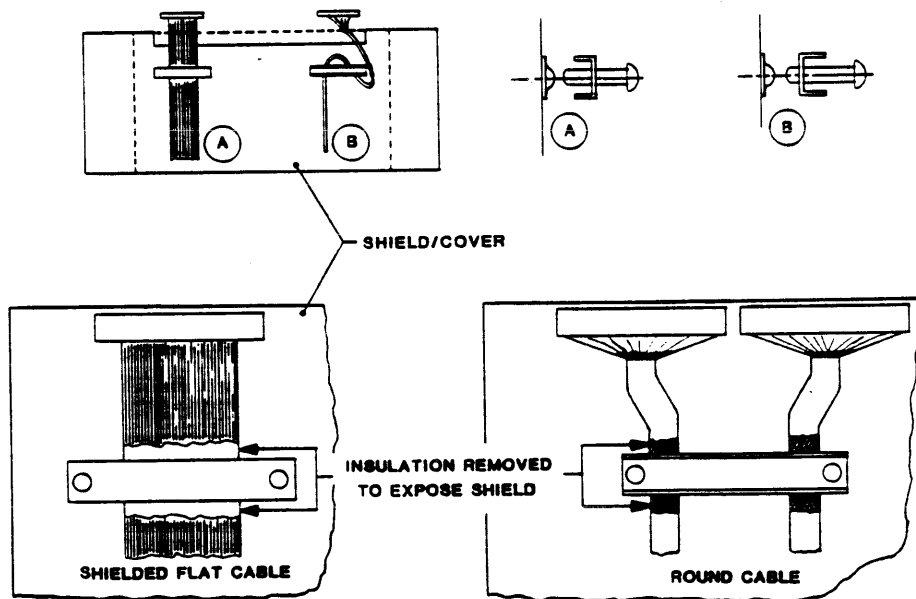
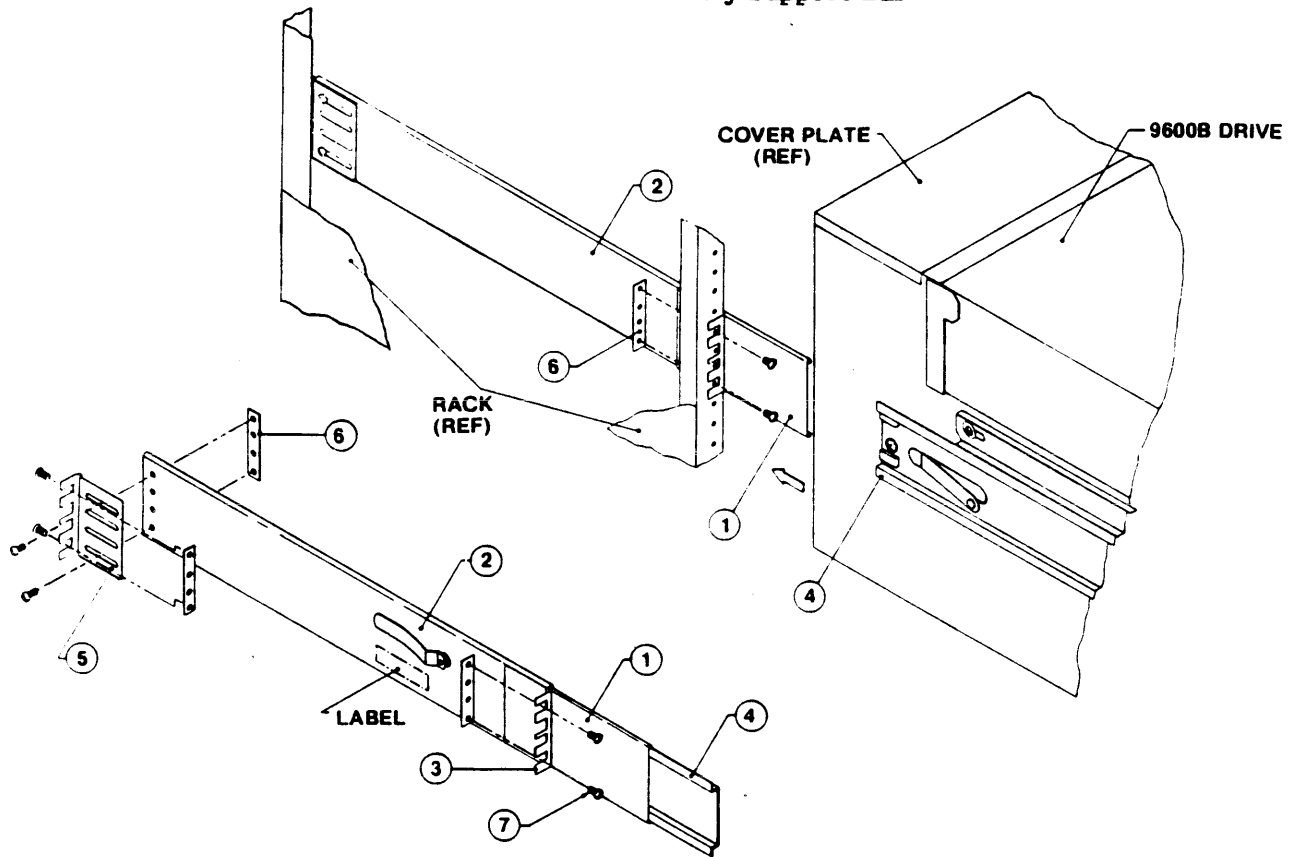

Figure 2-3. Grounding Cable Clamp Details
Figure 2-8. Track Subassembly
Recommended connectors and cables are as follows: - Daisy chains may optionally require a Cable Connector Adapter (See Figures 2-3 and 2-5).
A. Install one of the Track Assemblies (Figure 2-8) on either side of the 19-inch Rack as follows:
- Using the 10-32 Slotted Screws (7) and Nut Plates (6)* provided, loosely assemble an Adjustable Mounting Bracket (5) to the rear of the Right Track Assembly.
- Aligning the bottom of the Fixed Mounting Bracket (3) at the 2-inch mark on the front of the 19-inch Rack, and using the 10-32 Screws (7) provided, mount the Fixed Mounting Bracket (3) to the front of the 19-inch Rack, and mount the Adjustable Mounting Bracket (5) (loosely attached to the rear of the Center Track) to corresponding holes in the rear of the 19-inch Rack. Level the Track and tighten all Screws.
- E. Remove about an inch of insulation from each Interface Cable at a point where the Cable will pass under the Grounding Cable Clamp(s). This will expose the cable shield. Run the Interface Cables under the Cable Clamp(s) as illustrated in Figure 2-3. Tighten the Clamp(s).